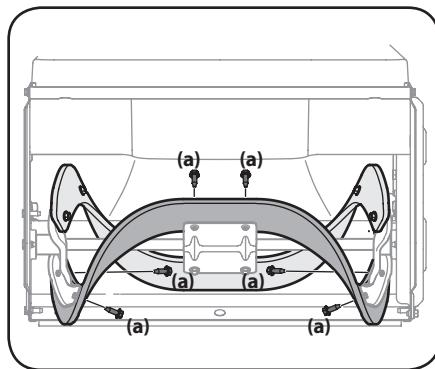

Figure 4-7
3. Remove the existing rubber paddles by un-threading the hex washer screws (a) which secure them to the auger. See Figure 4-7.